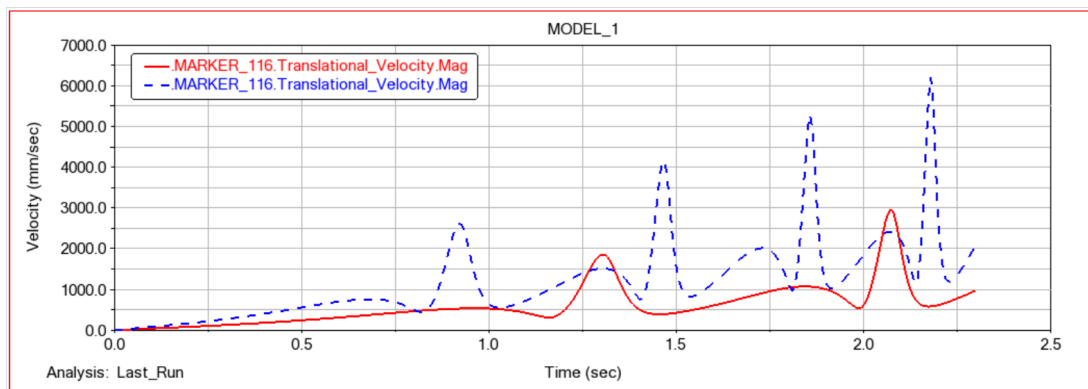

Fig. 7: Superimposed velocity vs time
1. Velocity plot is show in fig 7